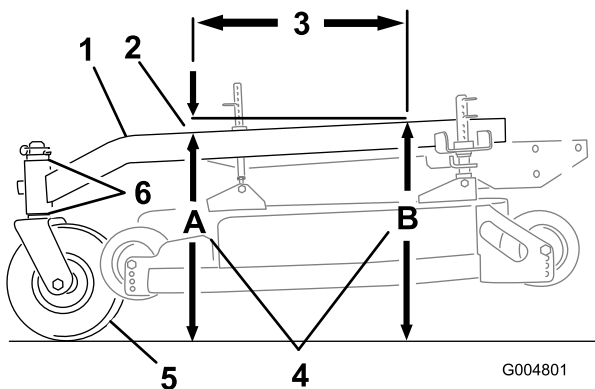

Figure 74
The carrier frame must have a pitch between 1/8 inch (3 mm) to 3/8 inch (9 mm) over the length of 24 inches (61 cm) on the carrier frame (Figure 74).
- Measure out 24 inches (61 cm) on the carrier frame (Figure 74).
- Measure carrier frame height at location **A** (Figure 74).
- Measure carrier frame height at location **B** (Figure 74).
- The height at location **A** must be an 1/8-3/8 inch (3 mm -10 mm) lower than location **B** (Figure 74).
- If the carrier frame is not correct, move caster spacers to make it an 1/8-3/8 inch (3 -10 mm) pitch (Figure 74). Move spacers from top or bottom to make the correct pitch.